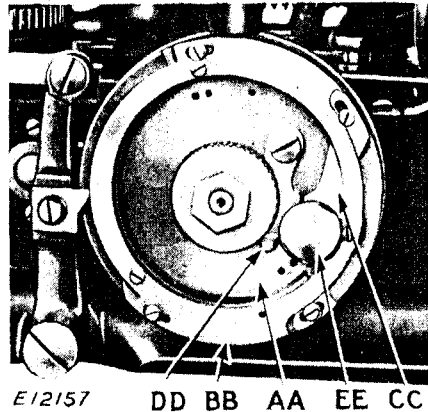

Fig. 39. Showing "Stop and Start" Pattern Wheel
One method utilizes a "stop and start" pattern wheel (AA, Fig. 39) upon which is mounted a pattern wheel ring (BB, Fig. 39) with a disengaging segment (CC, Fig. 39) which can be manually set to produce regular eyelet-end buttonholes or set to cause the sewing to suspend at a position near the eye end of the first side, which in turn starts the rapid feed to move the work
and the sewing resumed. To set the segment (CC) for straight buttonhole, unlock the latch (DD, Fig. 39) and push in the stud (EE, Fig. 39) and release latch (DD) to lock segment (CC) in this position. To set the segment for large eye, unlock the latch (DD) and pull out the stud (EE) and release the latch (DD). Insert the proper cutting block as listed for size and type of buttonhole. (See list of equipment marked *).